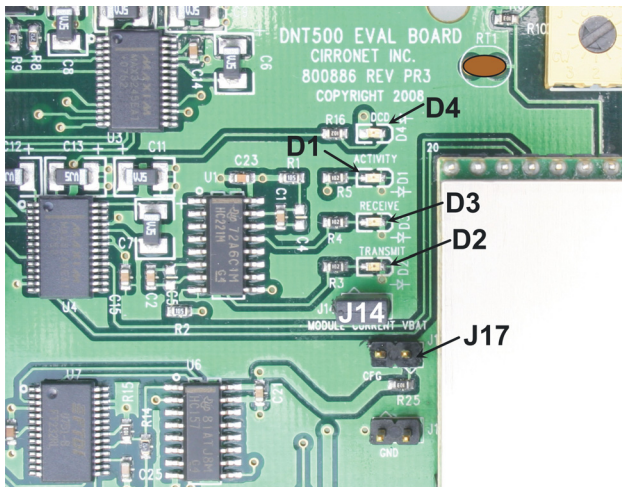

Figure 3
4. Confirm there is a jumper on pins J14, as shown in Figure 3. The interface boards can now be powered by the 9 V wall-plug power supplies (the interface boards can also be run for a short time from the 9 V batteries for range testing, etc.).